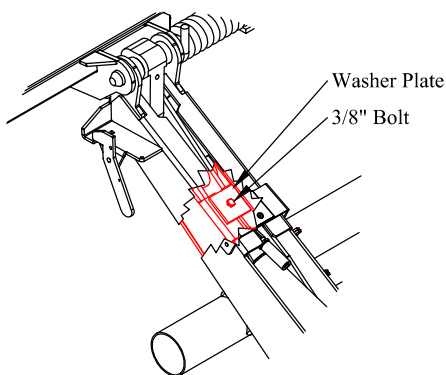

Figure 10: Washer plate location.
19. **Remove** the 3/8" bolt, washers, nut, and washer plate from each lift arm (Figure 10).